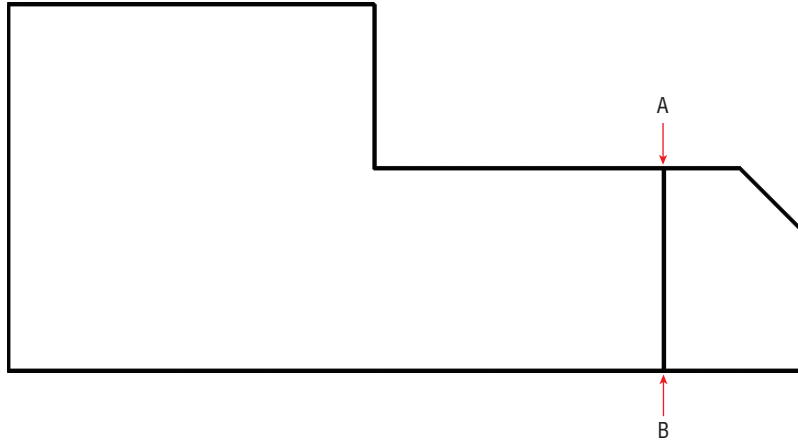

FIGURE 3.10 Drawing a line without Object Snap
2. Using Polar Tracking, but without invoking Object Snap, draw a line using points A to B in Figure 3.10 as a guide. Click each point as